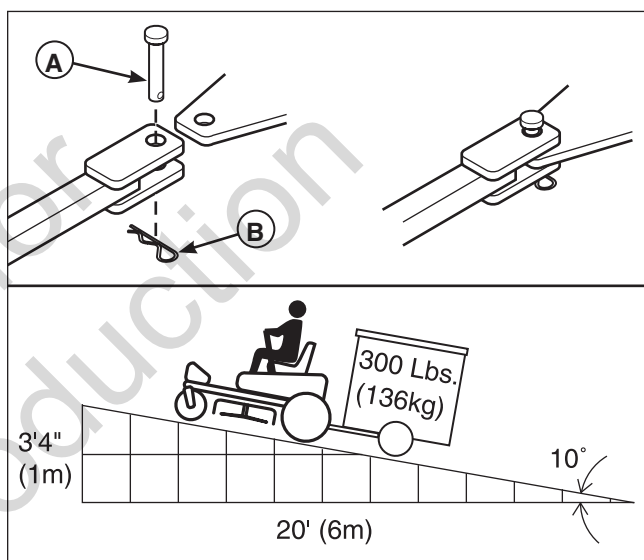

Figure 10. Trailer Weight Recommendations
The maximum weight of a towed trailer should be less than 300 lbs (138kg). Secure the trailer with an appropriately sized clevis pin (A, Figure 10) and clip (B).